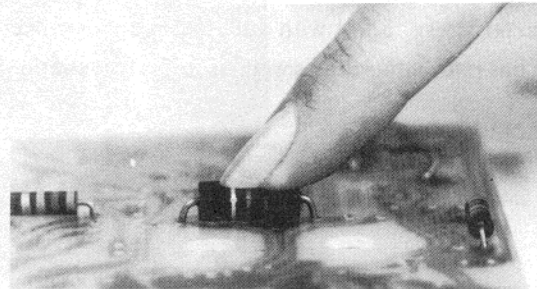
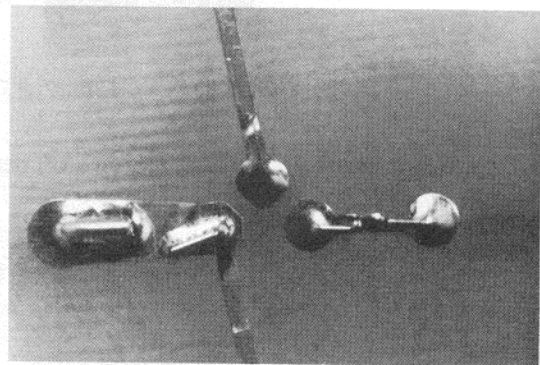

Fig. 7.12 Correct Pressure Applied
Fig. 7.13 Acceptable Solder Joints
4. Components should be held tight to the PC board while clinching leads on other side (Fig. 7.12) and soldered accordingly. Fig. 7.13 shows acceptable solder joints.